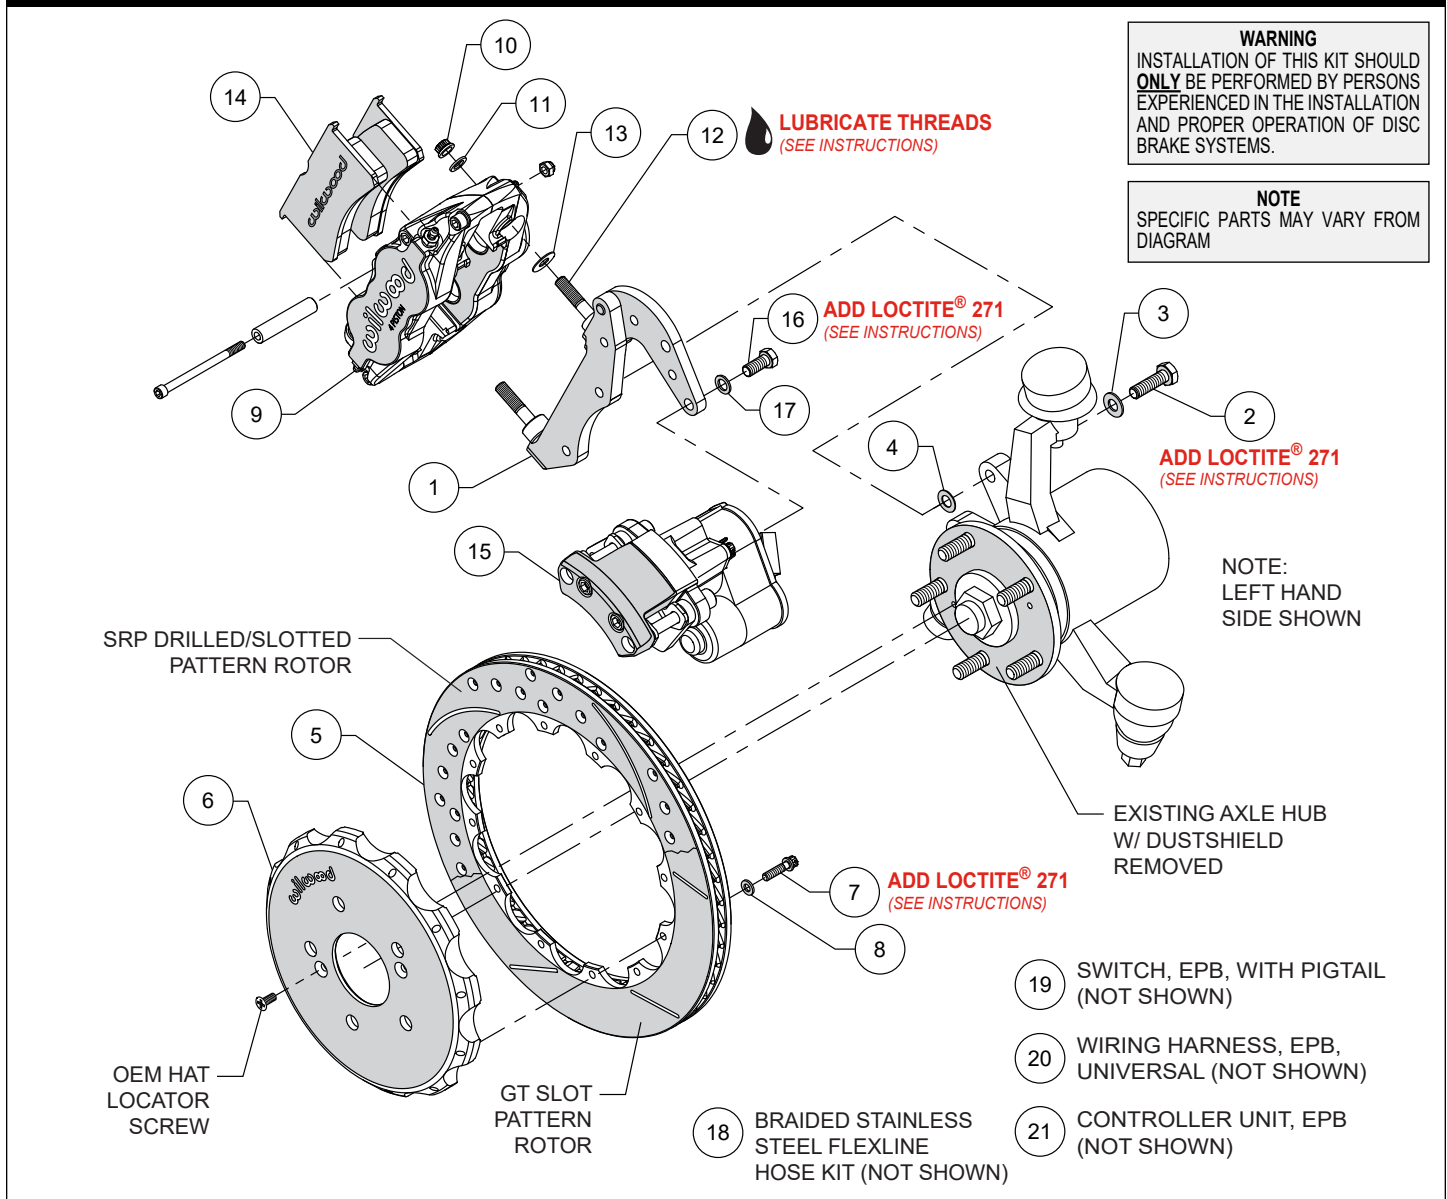

Figure 1. Typical Installation Configuration
**NOTE:** Numbers in parenthesis refer to the parts list and Figure 1 on the preceding pages.
- The caliper mount bracket assembly (1) should initially be installed with clean, dry threads on the bolts. Orient the bracket assembly as shown in Figure 1 and Photo 1, and install using mount bolts (2) and washers (3). Initially place one .030" thick shim (4) on each bolt between the bracket (1) and upright. Temporarily tighten the mounting bolts. **NOTE:** *The bracket must fit squarely against the mount bosses on the upright.* Inspect for interference from casting irregularities, machining ridges, burrs, etc. Later, after the caliper alignment has been checked, the mount bolts will be secured using red *Loctite*® 271 and properly torqued.
- Orient the rotor (5) and the hat (6) as shown in Figure 1 and Photo 2. Attach rotor to hat using bolts (7) and washers (8). Apply red *Loctite*® 271 to the bolt threads and torque to 155 in-lb using a criss-cross pattern. For an added measure of security, the bolts may be safety wired using standard 0.032 inch diameter stainless steel safety wire as shown in Figure 3. Please refer to Wilwood's data sheet DS-386 (available at [www.wilwood.com/Pdf/DataSheets/ds386.pdf](http://www.wilwood.com/Pdf/DataSheets/ds386.pdf)) for complete safety wire installation instructions.
- Lubricate the caliper mounting studs (12) with lightweight oil. Initially place one .035" thick shim (13) on each stud between the caliper and the bracket (1), as shown in Figure 1 and Photo 3. Mount the caliper (9) onto the bracket (1) using lock nuts (10) and washers (11), Figure 1. Temporarily tighten the lock nuts and view the rotor through the top opening of the caliper. The rotor should be centered in the caliper as shown in Photo 4. If not, adjust by adding or subtracting shims (4) between the bracket and the upright. Always use the same amount of shims on each of the two mounting bolts. Once the caliper alignment is correct, remove the bracket mounting bolts (2) one at a time, apply red *Loctite*® 271 to the threads and torque to 35 ft.-lb.
- Mount the EPB caliper (15) onto the (flat) bracket (1) using bolts (16) and washers (17), as shown in Figure 1 and Photo 8. Apply red *Loctite*® 271 to bolt threads, and torque to 30 ft-lb.